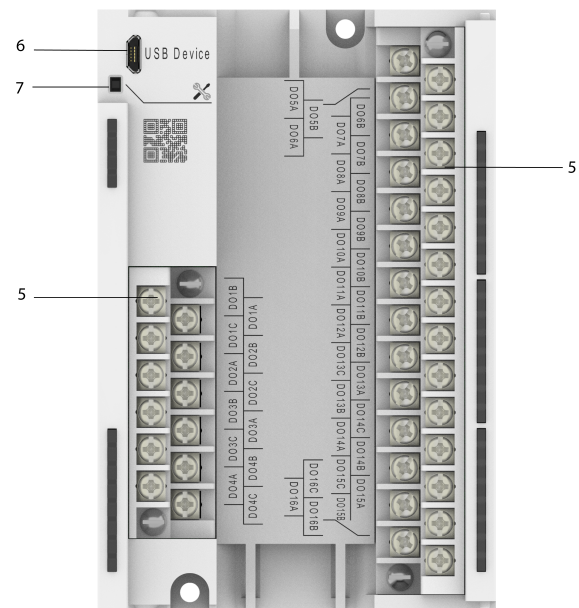

Fig. 2.2 Front view (open cover)
1. Connect the microUSB programming connector of the device (Fig. 2.2. Pos. 6) to PC over a USB-to-microUSB connection cable (not included).